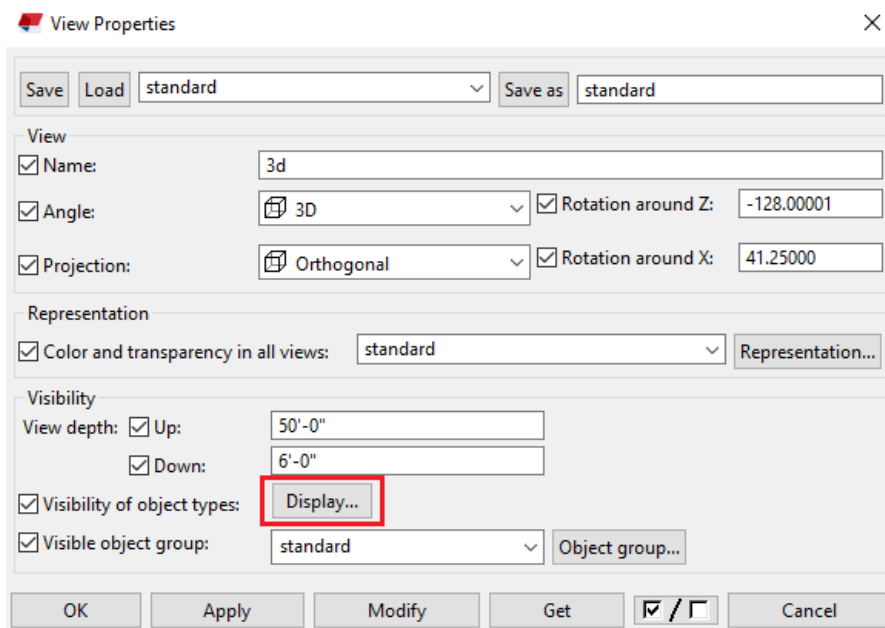

Figure 7-26. View Properties for Displaying Connection ID's
2. Open the **Display** option next to **Visibility of object types** (see Figure 7-26).